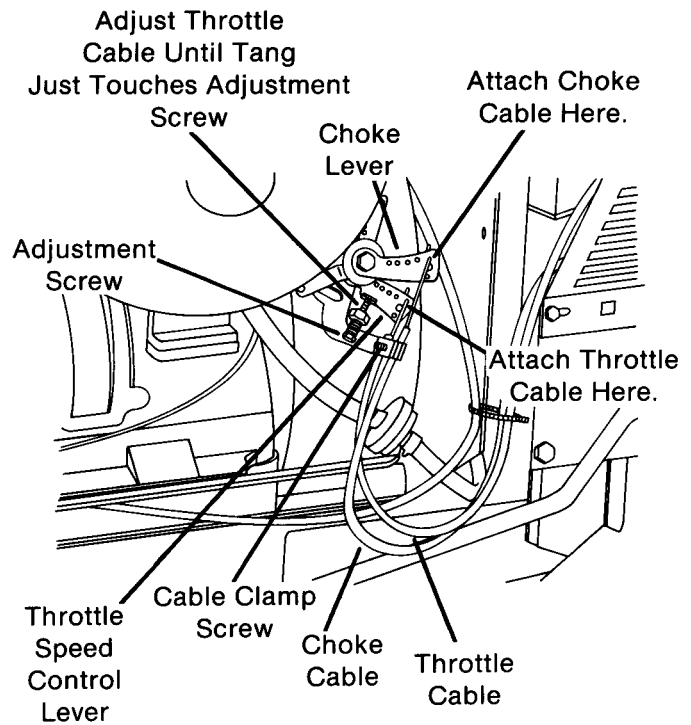

FIG. 4
- I. Loosen cable clamp screws, securing throttle and choke cables to left side of engine, far enough so both cables can be removed. (Fig. 4) Unhook throttle cable end (inner cable) from throttle speed control lever. Unhook choke cable end (outer cable) from choke lever.
rear hole on inside control lever. Position cable under cable clamp and move throttle cable until tang on speed control lever just touches throttle adjustment screw. (Fig. 4) Tighten cable clamp screw after choke cable has been adjusted.
- b. Choke Cable - Remove air cleaner. Attach end of choke cable to top rear hole on outside control lever. (Fig. 4) Position cable under cable clamp and push knob on choke control in all the way against instrument panel. Adjust cable until butterfly in carburetor throat is full open. Tighten cable clamp screw, making sure throttle cable adjustment has not changed. Pull knob on choke control out (minimum 1½") butterfly in carburetor throat must close all the way. Adjust cable until proper choke is achieved. Replace air cleaner.